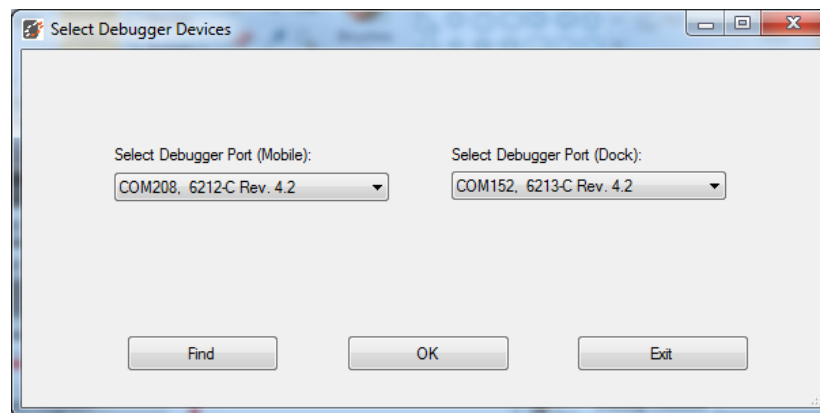

Figure 3.1. Snap Tool – Select Debugger Devices
4. Both upstream and downstream Snap devices should be detected as a COM port, as shown in Figure 3.1.